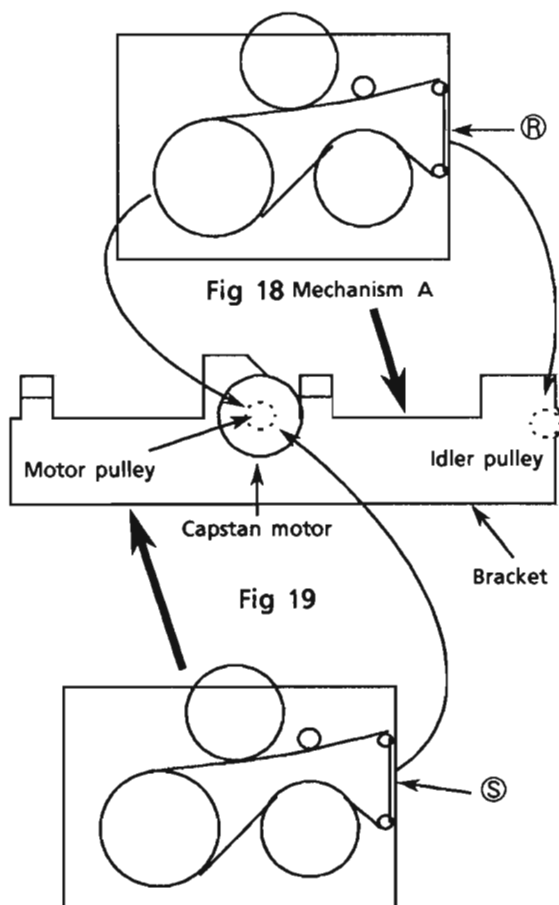

Fig 20 Mechanism B
4. Hang the part (R) to the Idler pulley.
5. Install the mechanism B installed the belt as shown in fig 20 to the bracket which is assembled with the mechanism A.
6. Hang the part (S) to the motor pulley using a tweezers and the like.